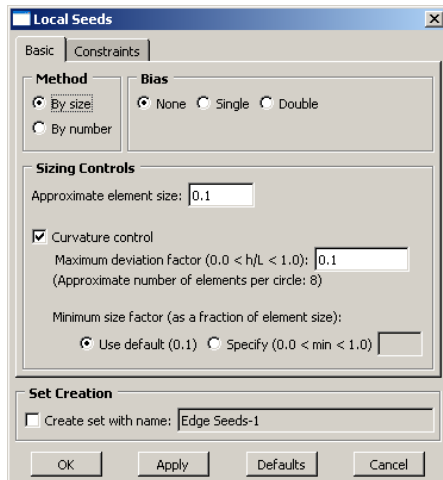
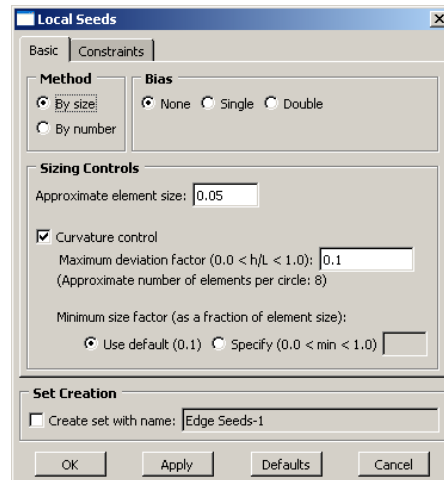

Figure 13a. Local Seeds Dialog Box
Figure 13b. Local Seeds Dialog Box (0.05)
- The **Local Seeds** dialog box will appear (Figure 13a). Under the **Basic** tab ensure the **Method** is set to **By size**, and under the **Sizing Controls** option change the **Approximate element size:** to 0.05. The **Local Seeds** dialog box should look similar to Figure 13b.